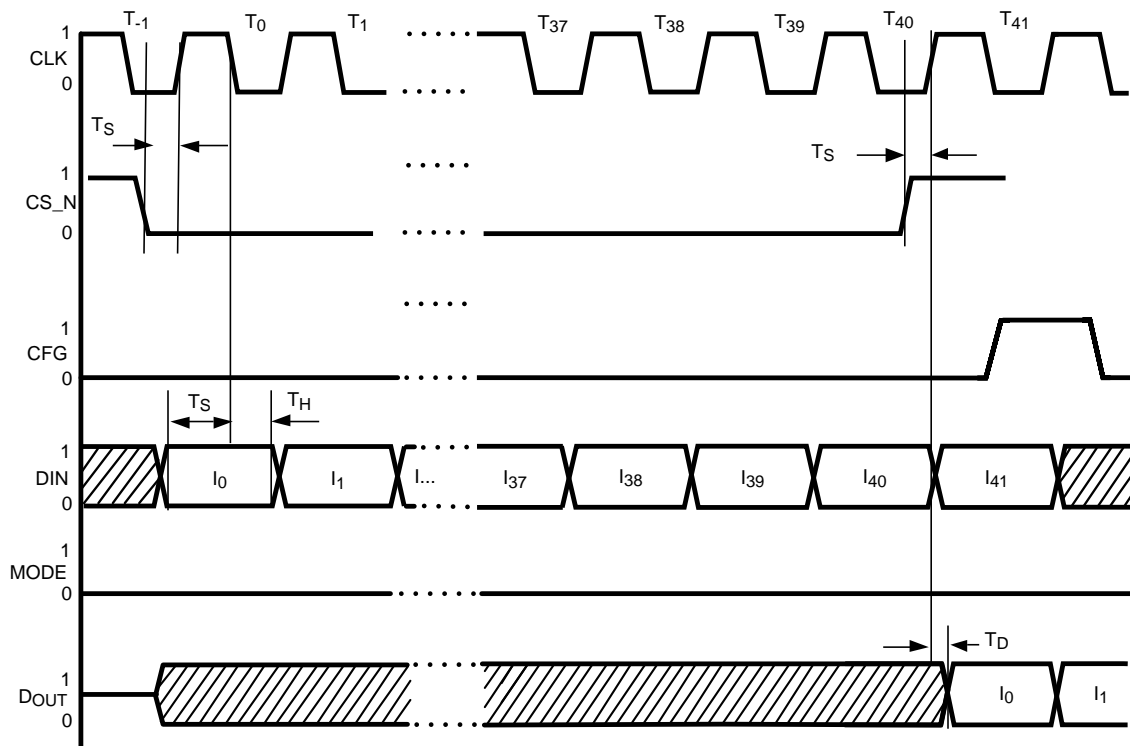

Figure 40. Timing Diagram for Serial Mode
Also illustrated is the timing relationships for the digital pins in Figure 40. It is important to note that all the pin timing relationships are important, not just the data and clock pins. One example is that the Chip Select pin (CS) must transition low before the first rising edge of the clock signal. This allows the internal timing circuits to synchronize to allow data to be accepted on the next falling edge. After the final data bit has been clocked in, the chip select pin must go high, then the clock signal must make at least one more low to high transition. As shown in Figure 40, the chip select pin state should always occur while the clock signal is low. The configure (CFG) pin timing is not so critical, but it does need to be kept low until all data has been shifted into the crosspoint registers.